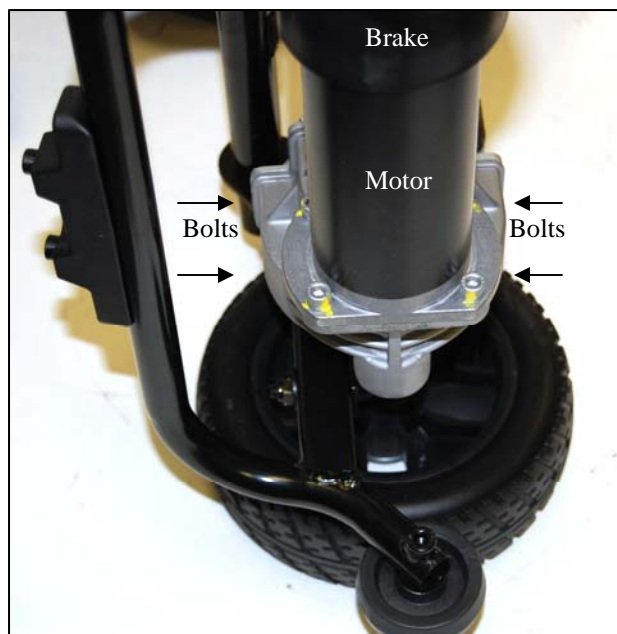

Figure 39. Motor/Brake Removal
8. Remove the (2) Phillips head screws connecting the rear intermediate connector to the frame.
10. Remove the (4) bolts that fasten the motor/brake to the transaxle. **See figure 39.**